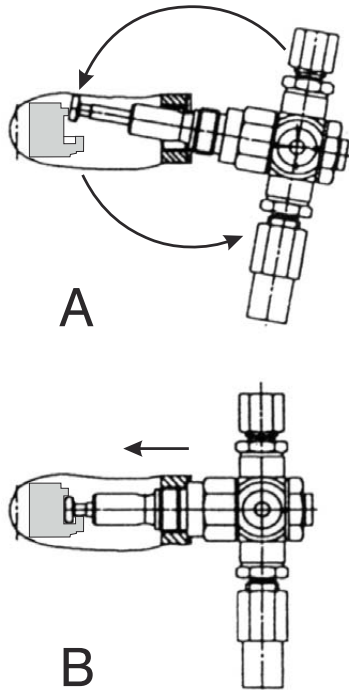

Figure 6-2 Installation & Removal of Pump Element
The pump element **MUST** be tilted upward when installing as described in the following procedure and illustrated in Figure 6-2. If the pump element is not tilted as described, the cam and pump may jam which will stall and burn out the motor. Improper installation will void the AutoLube CML Warranty.
Tilt the pump element upward and insert the pump element into the pump housing orifice (Refer to view A in Figure 6-2).
3. When the piston touches the thrust ring, straighten the pump element to the horizontal plane. (B in Figure 6-2.) The piston should rest in the guide ring groove.